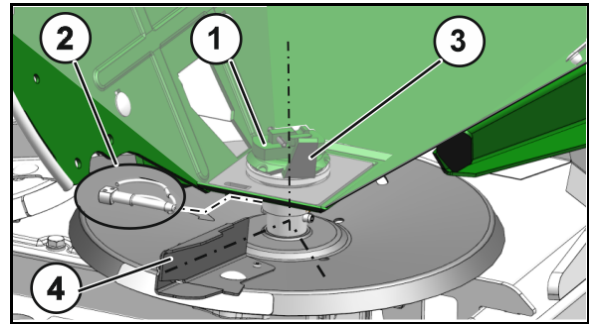

Fig. 84
To switch off the agitator head (Fig. 84/1), pull out the lynch pin (Fig. 84/2) below the corresponding hopper tip.
**When switching on the agitator head again, be absolutely certain that the agitator head finger (Fig. 84/3), when moving in the direction of rotation, does so ahead of the short vane (Fig. 84/4).**